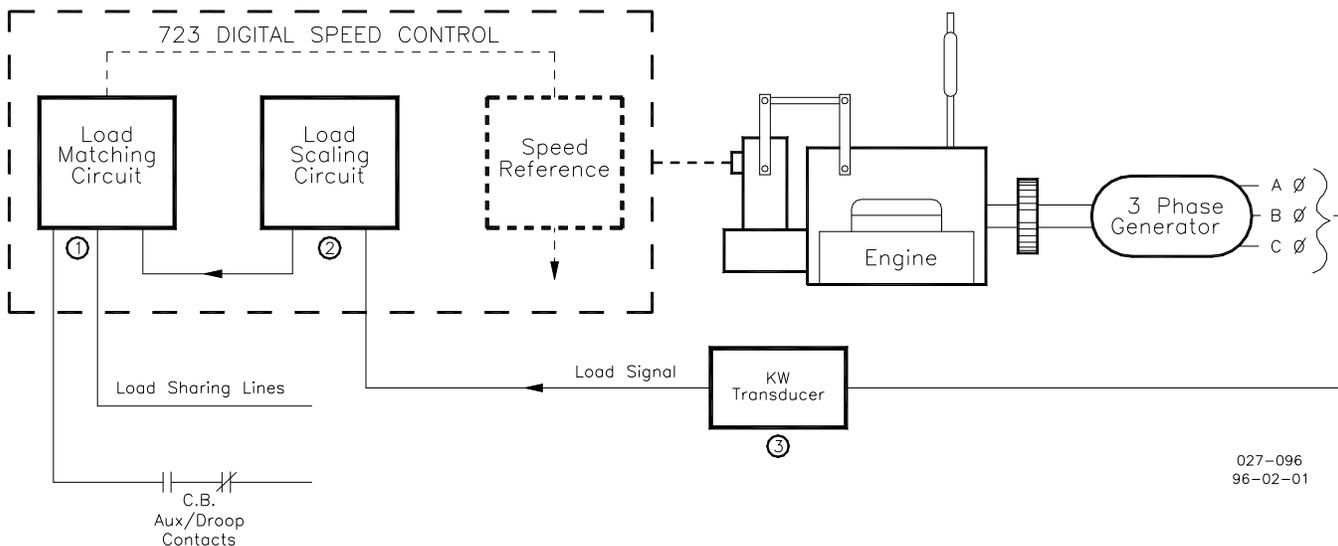

Figure 5-4. Paralleling System
There are two basic methods used for paralleling: droop, where speed decreases with load, and isochronous, where speed remains constant. The paralleling system shown in Figure 5-4 consists of a load matching circuit (1), a load scaling circuit (2), and a KW transducer (3).